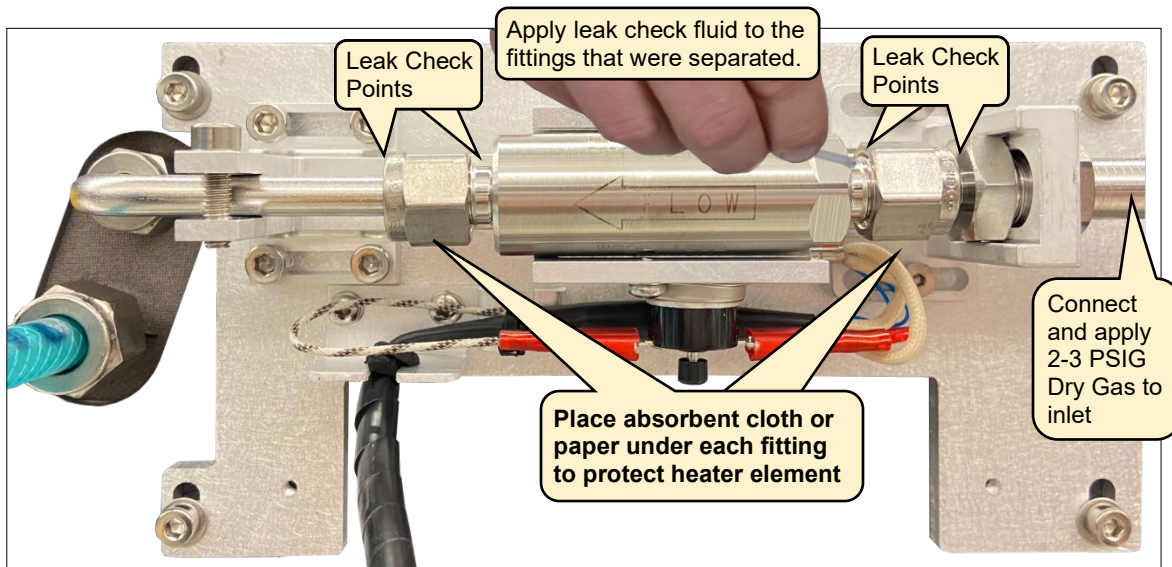

Figure 25: Leak Test After Reassembly – Externally Mounted Filter
2. Loosen the three captive thumbscrews on the filter housing (Figure 25), then carefully remove the filter housing (Figure 26).